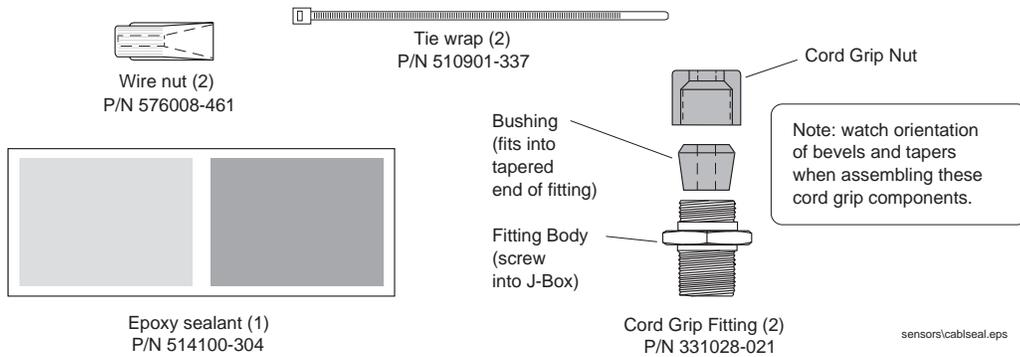

Figure 1. Installation kit
- Installation Kit - P/N 312020-949 (Figure 1)